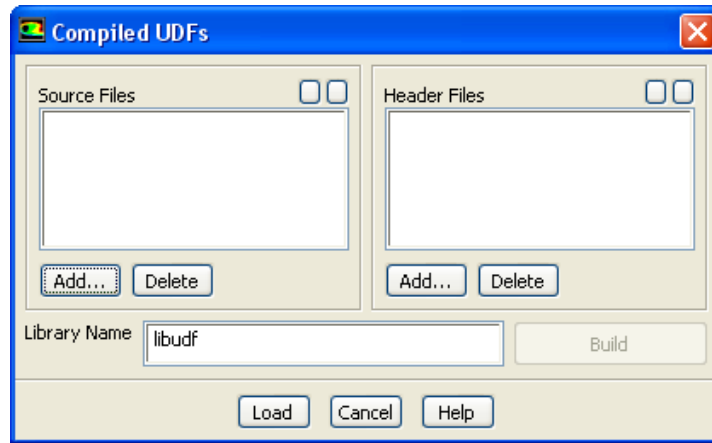

Figure 5.2.1: The Compiled UDFs Dialog Box
4. Open the Compiled UDFs dialog box (Figure 5.2.1).